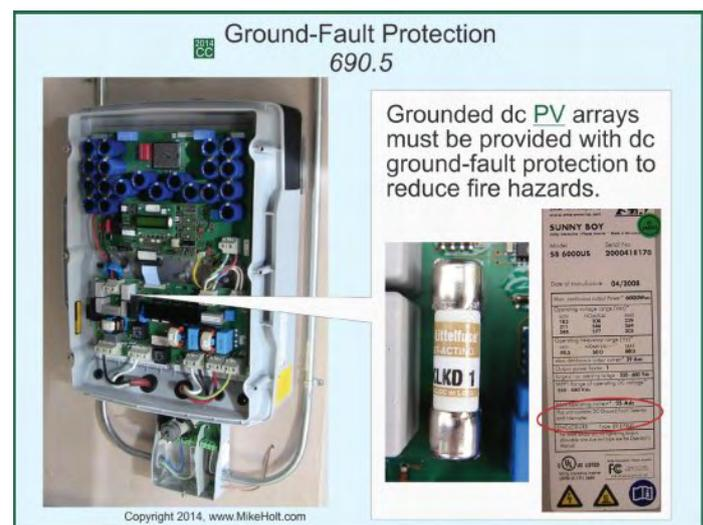

Figure 690-24
Grounded dc PV arrays must be provided with dc ground-fault protection meeting the requirements of 690.5(A) through (C) to reduce fire hazards. Figure 690-24